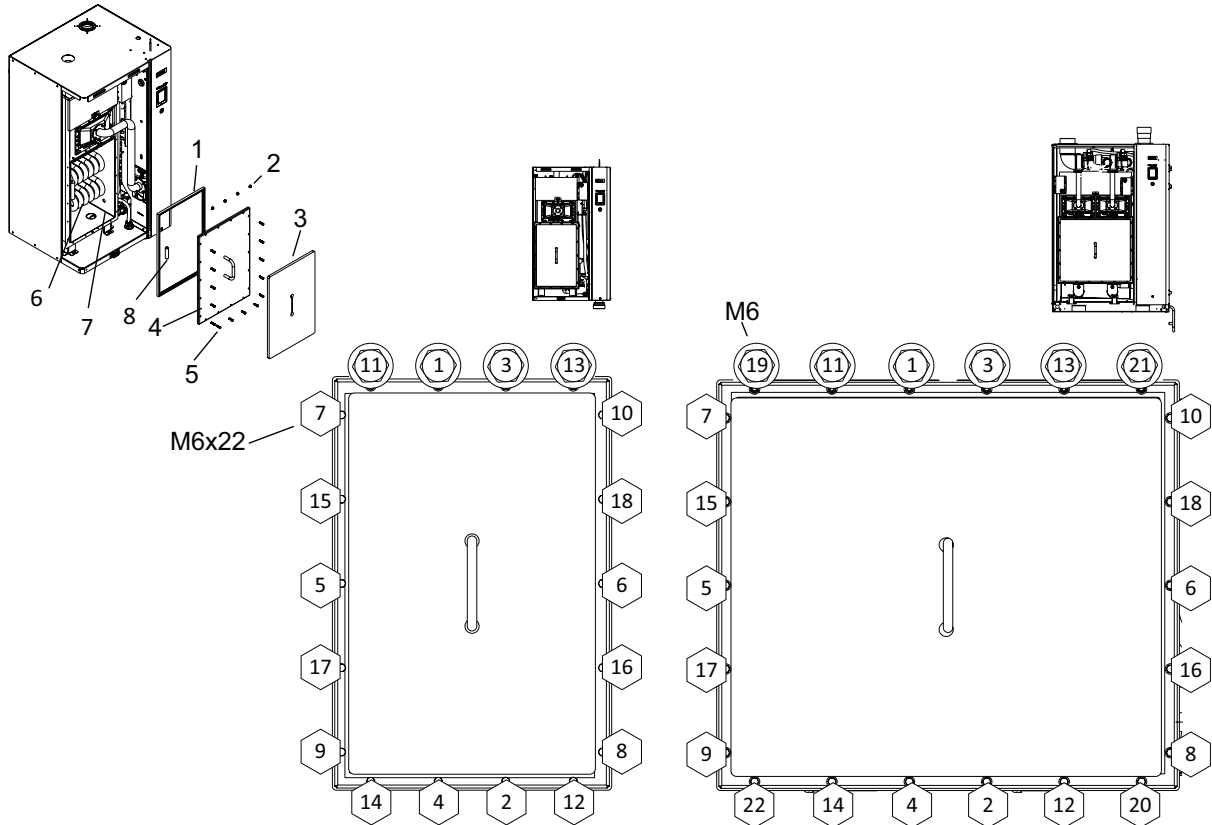

Figure 10: Tank Door Torque Sequence
Clean the inside of the tank, the outside of the primary heat-exchanger coils and the drain fitting as follows. Refer to Figure 10 on page 60. It is not necessary to remove the tank from the unit in order to clean it.
- Install a new tank gasket and secure the tank cover to the tank. **Note:** The order of torquing the bolts for the tank cover are shown in the hexagonal symbols in Figure 10. Tighten bolts with your fingers and torque at the end of assembly.